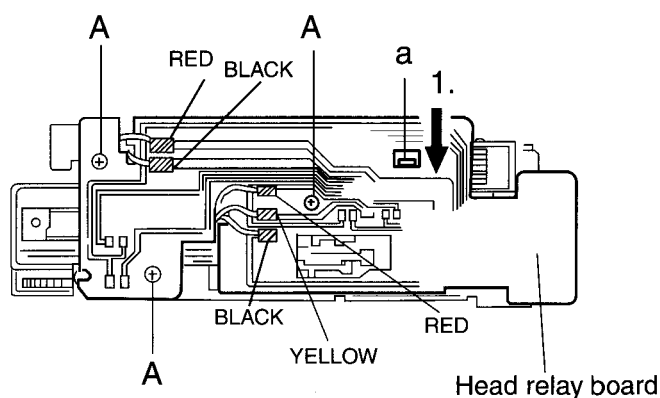

Fig. 1
■ Removing the Head Relay Board (See Fig. 1)